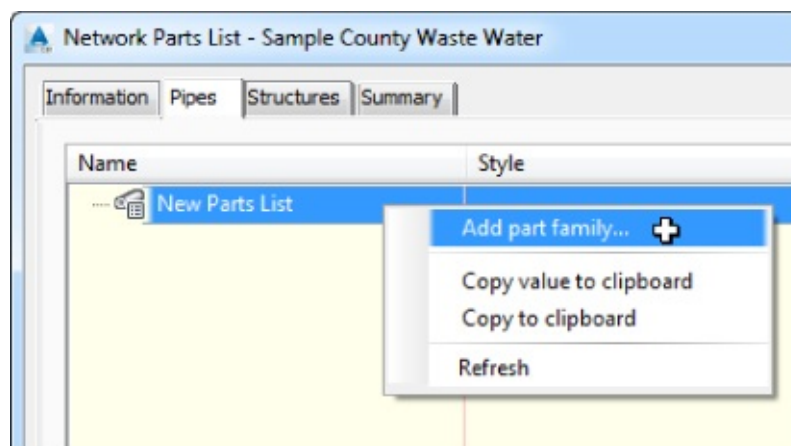

Figure 13.16 Add a part family for your new parts list.
6. Right-click New Parts List and select Add Part Family, as shown in Figure 13.16.